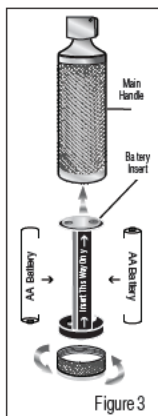

Figure 3
- 2) Replace with appropriate size batteries. Insert 1 battery positive end first and the other negative end first into battery insert, paying attention to the polarity markings. Slide battery insert back into handle following the direction of the "Insert This Way Only" arrows. Screw bottom cap on and tighten. (Figure 3)